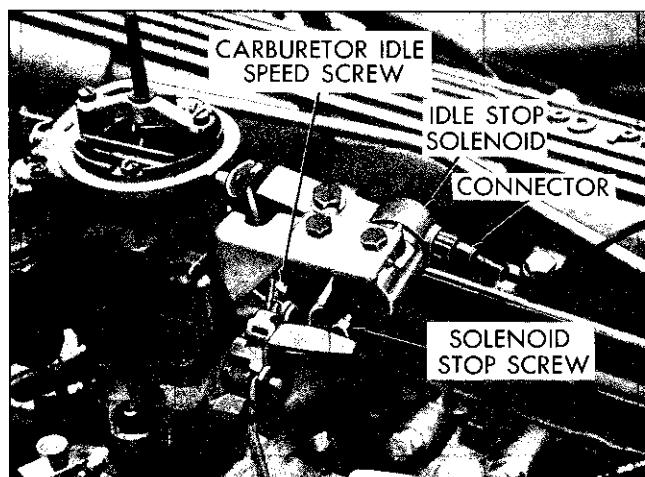

Fig. 6D-2 Idle Stop Solenoid (6 Cyl. Shown)
2. With idle stop solenoid energized, adjust mixture screws to best lean carburetor setting using solenoid stop screw for idle speed adjustment. (Fig. 6D-2).